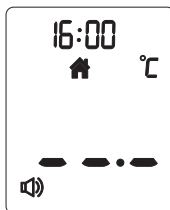

Figure 4
3. Press the **⏻ Button** to turn on the thermometer, you can take the object temperature after hearing two beep sounds.(see figure 4)